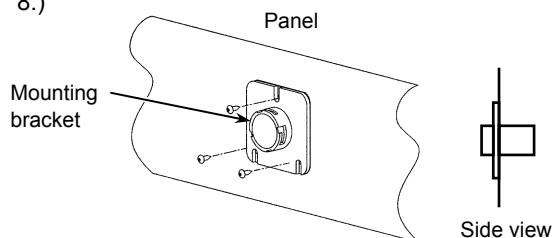

Figure 8. Mounting bracket on the panel
- 2) Fix the mounting bracket onto the equipment panel with M4 screws (supplied with the bracket). (The side with shorter protruding part needs to face outward. See Fig. 8.)